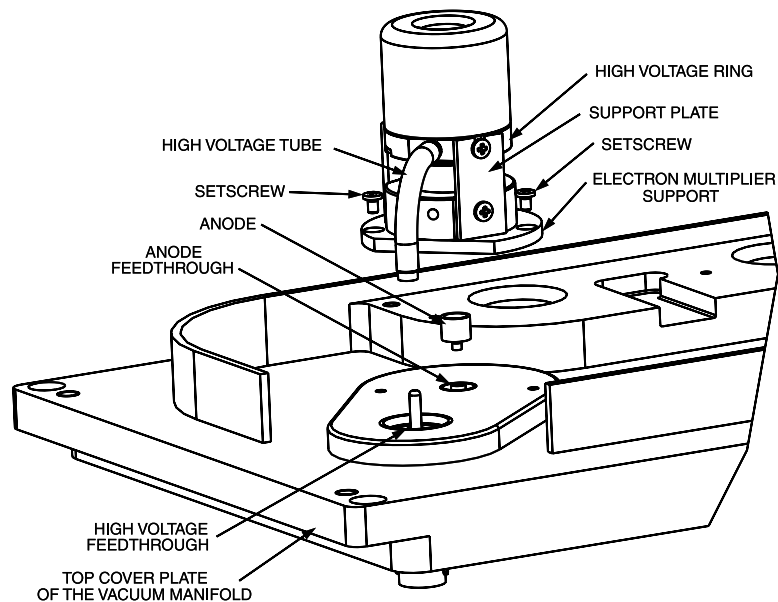

Figure 8-10. Exploded View of the Electron Multiplier, Showing the Anode
7. Remove the anode from the anode feedthrough by unscrewing it (turn it counterclockwise) by hand. Place it on a clean surface. Figure 8-10 shows an exploded view of the electron multiplier with the anode.